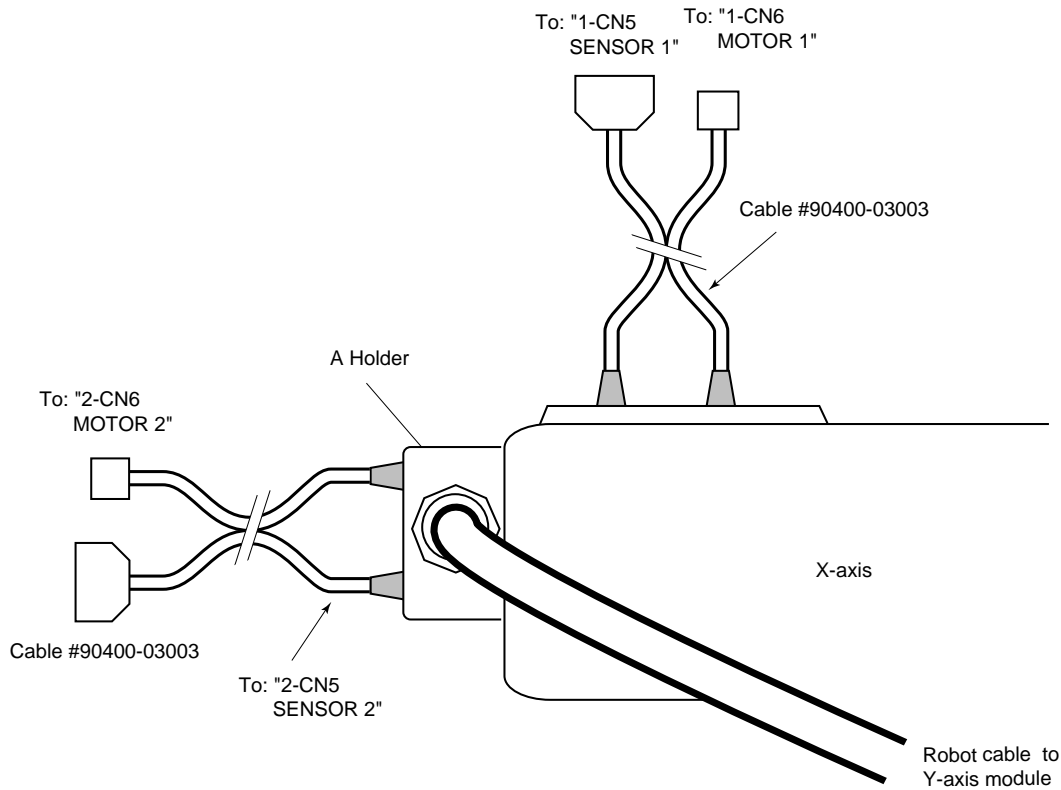

Figure 4-28. Connecting to an EXA or EXC Controller
- b. Attach the A holder end of the robot cable to the motor end face of the X-axis module as shown in Figure 4-28 (refer to Section 4.3 for holder mounting).
- d. Connect the two barrel ends of the controller cable to the Z-axis robot cable holder on the X-axis module as shown in Figure 4-28. These connectors have different pin sizes and cannot be installed incorrectly. The other ends connect to the controller connections marked “2-CN6 MOTOR 2” and “2-CN5 SENSOR 2”.